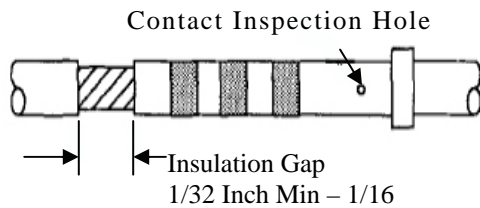

Figure 12. Insulation Gap
- c. Insert stripped wire into contact conductor barrel. Ensure all wire strands are inside contact conductor barrel and visible in contact inspection hole (Figure 12).